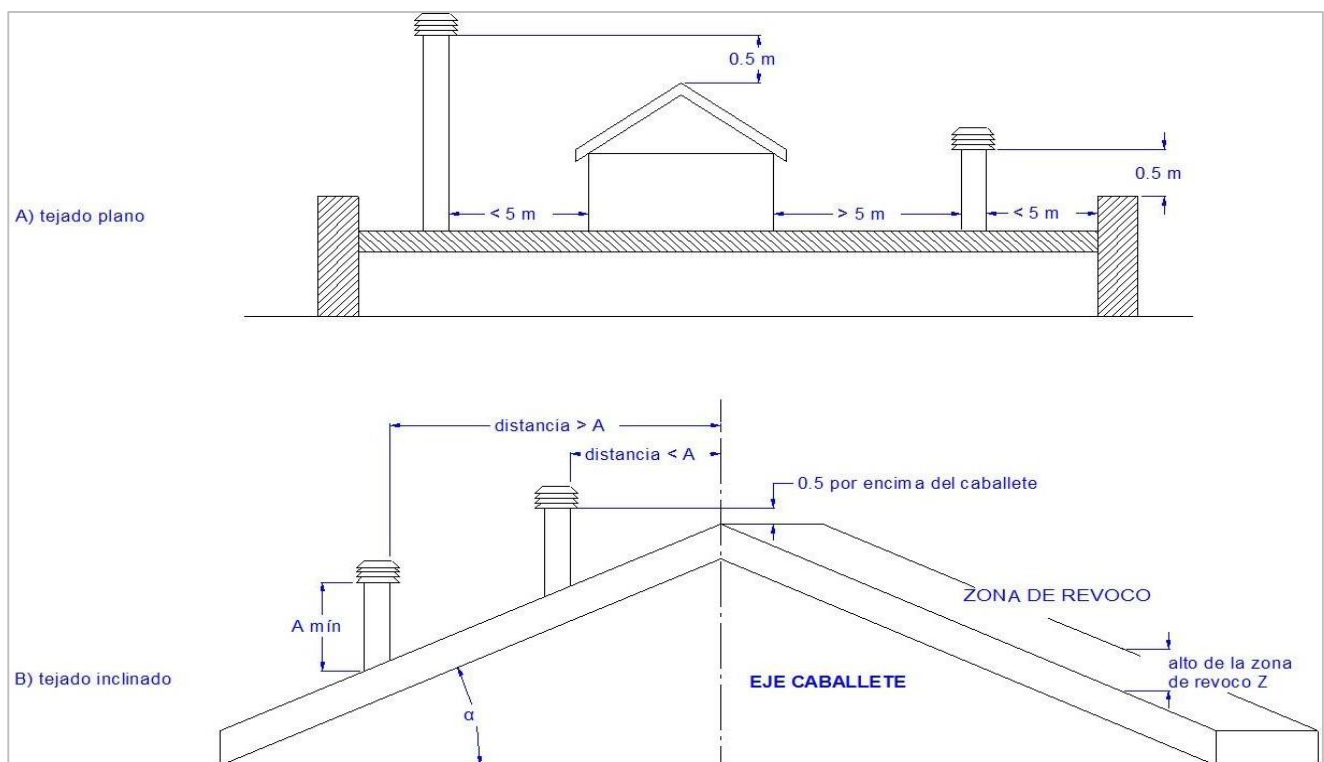

Figure 6
5. Be located in a position that guarantees adequate dispersion and dilution of the combustion products, always outside the reflux zone in which back pressures can easily form. The size and shape of said area will vary depending on the angle of inclination of the cap fins, so it is necessary to respect the minimum heights indicated (see figure 6).